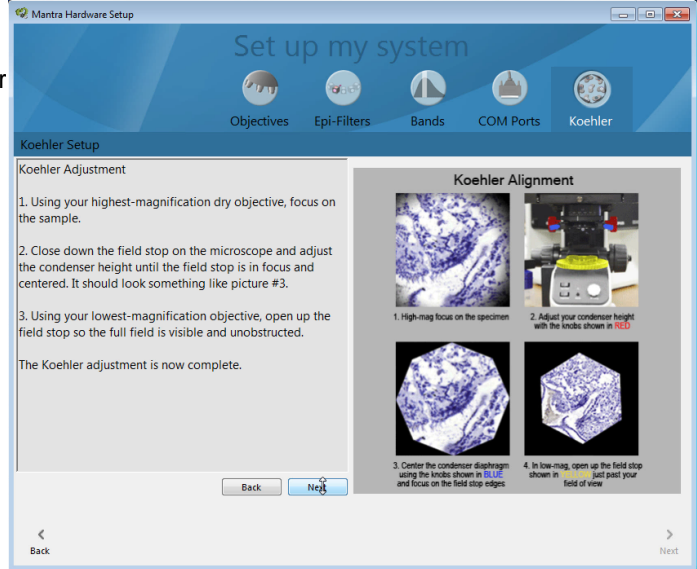

Figure 53. Step 2 of the Koehler alignment procedure requires you to center and focus on the edges of the field stop.
Step 2. Use the Objective rocker switch on your Mantra system to select the highest magnification (20X or 40X, depending on your configuration). Close down the field stop by rotating the ring located around the brightfield illuminator (highlighted in yellow in Figure 53). Then adjust the height of the condenser by turning one or both of the condenser height adjustment knobs (highlighted in red in Figure 53) until the edges of the field stop are sharp. Finally, use the Objective rocker switch to select your lowest magnification (4X) and open the field stop until your field of view is unobstructed.